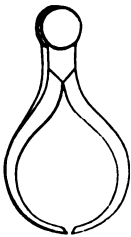

Fig. 1.
**Callipers.**—[*Calibre.*—*Der Federzirkel.*]—Two curved steel or brass fingers pivoted together to form a tool for measuring diameters. (Fig. 1.)